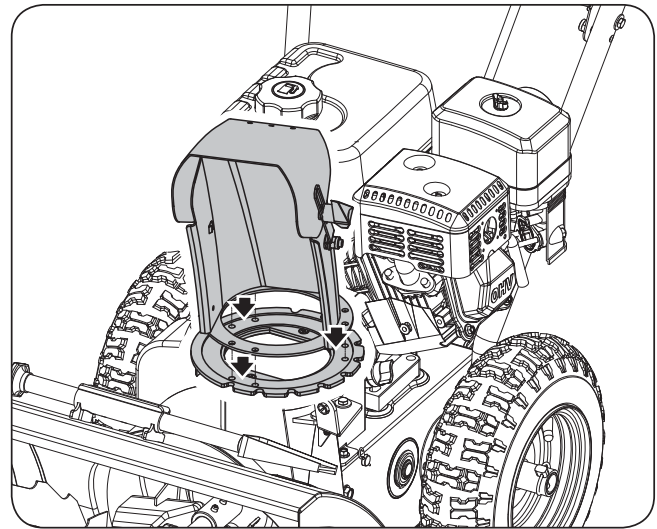

Figure 7b
2. Place the discharge chute facing it forward over the chute crank flange. (See Figure 7b)